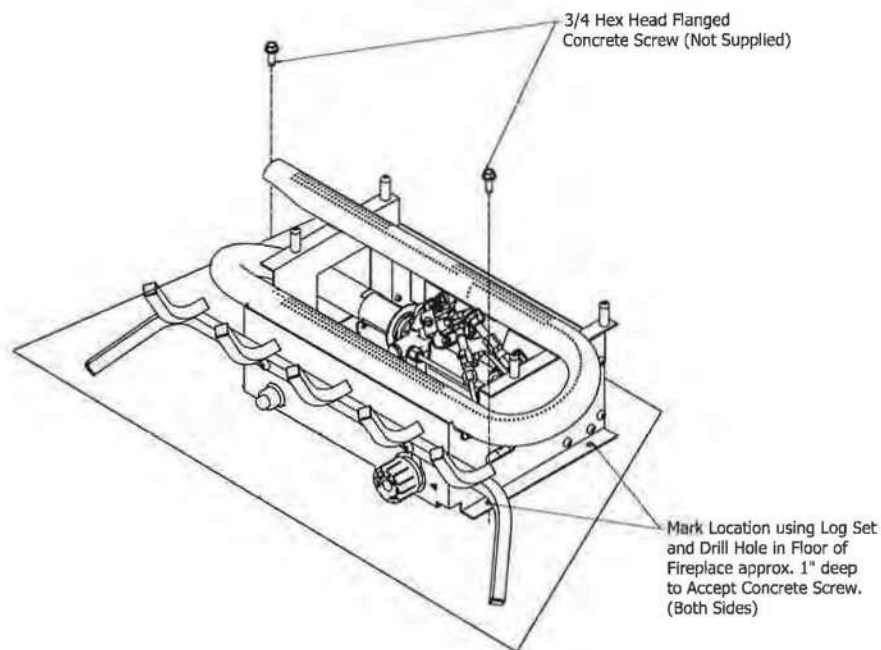

Fig. 11.1
- Drill two (2) 5/32" diameter holes approximately 1" deep.
- Anchor the front pan to the floor using the (2) Concrete Attachment Screws (Not Included) (See Fig. 11.1).